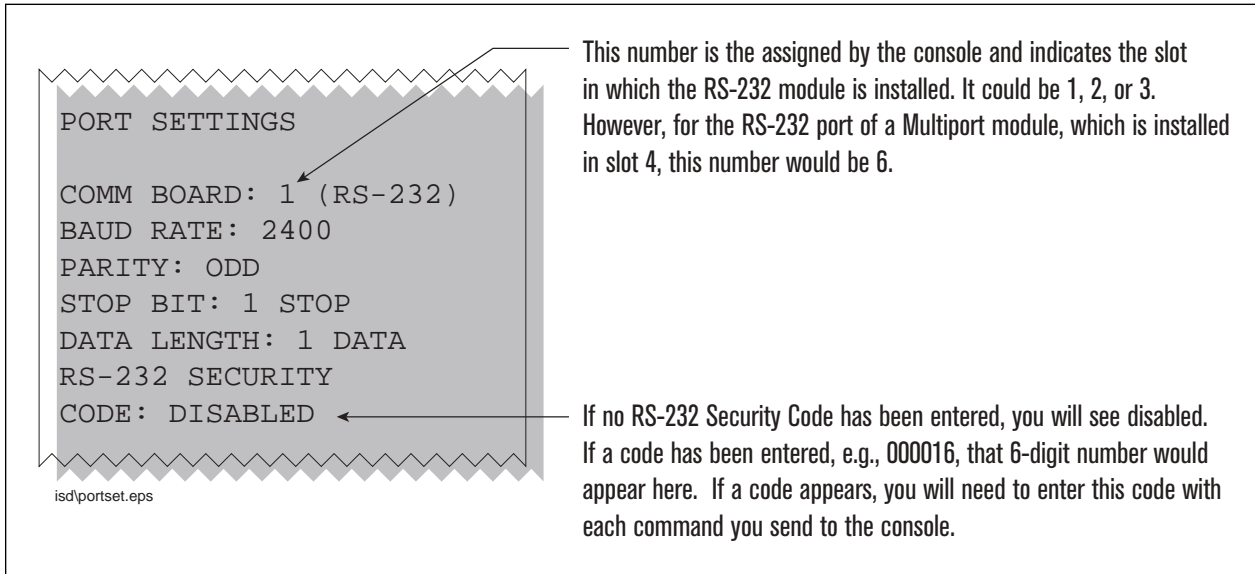

Figure 28. Console Comm Port Settings Printout Example
d. Press the PRINT key to printout the port settings for all communication modules installed in the console. Figure 28 shows an example port settings printout with the RS-232 module installed. Using the console port settings in the example below, your HyperTerminal 'Port Settings' window entries would be Bits per second - 2400, Data bits - 7, Parity - Odd, Stop Bits - 1. For the 'Flow Control' entry select None. Click OK.